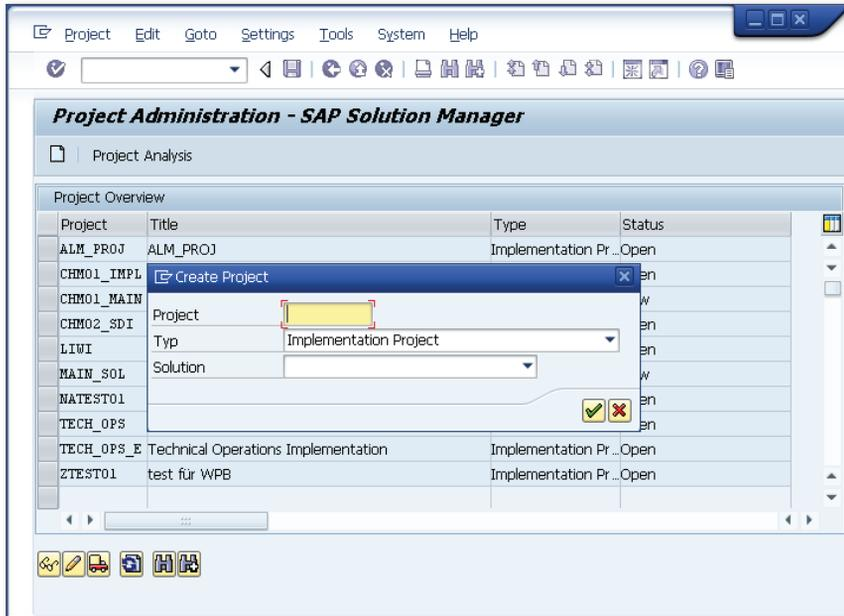

Figure 3.6 Create Project
1. Click the  icon to create a project (see Figure 3.6).